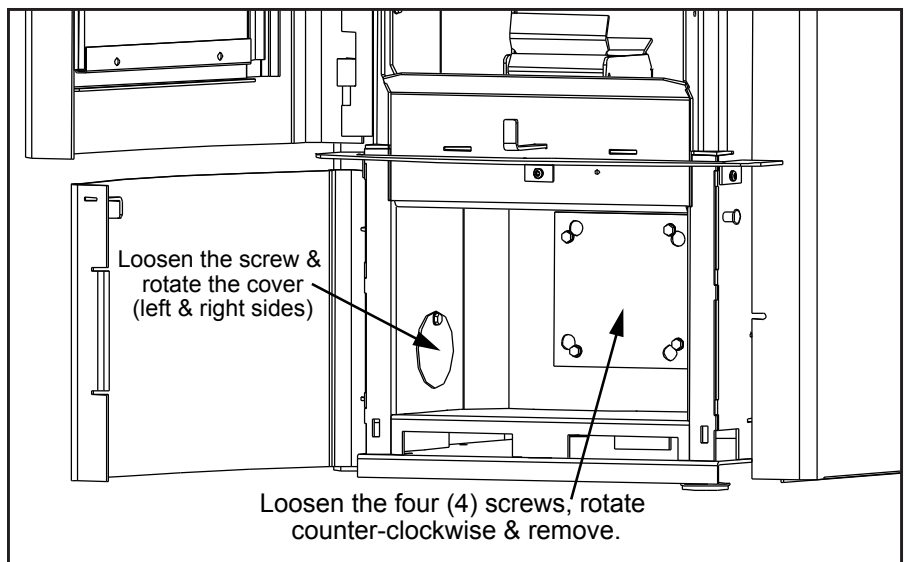

Figure 7: Bern Clean-Out Covers.
- Using a  $\frac{5}{16}$ " socket, loosen the six (6) screws in the ash box compartment; four (4) on the back and one (1) on each side (see Figure 7).
- Vacuum out all three (3) chambers.